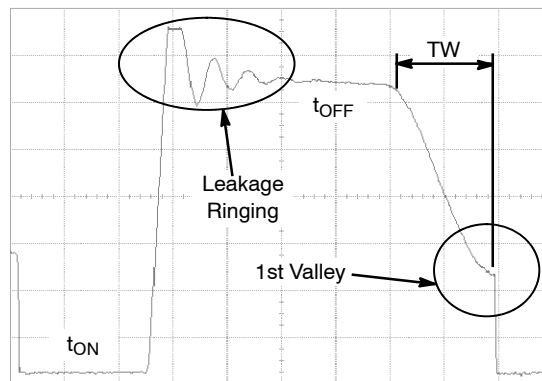
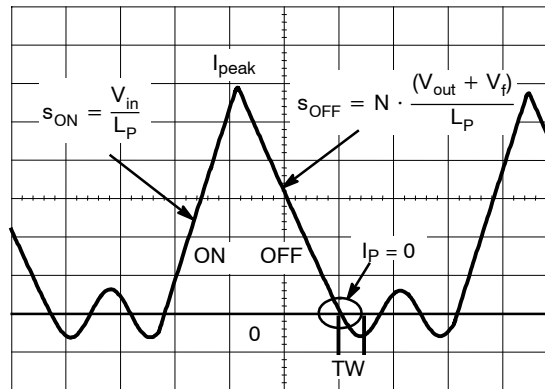
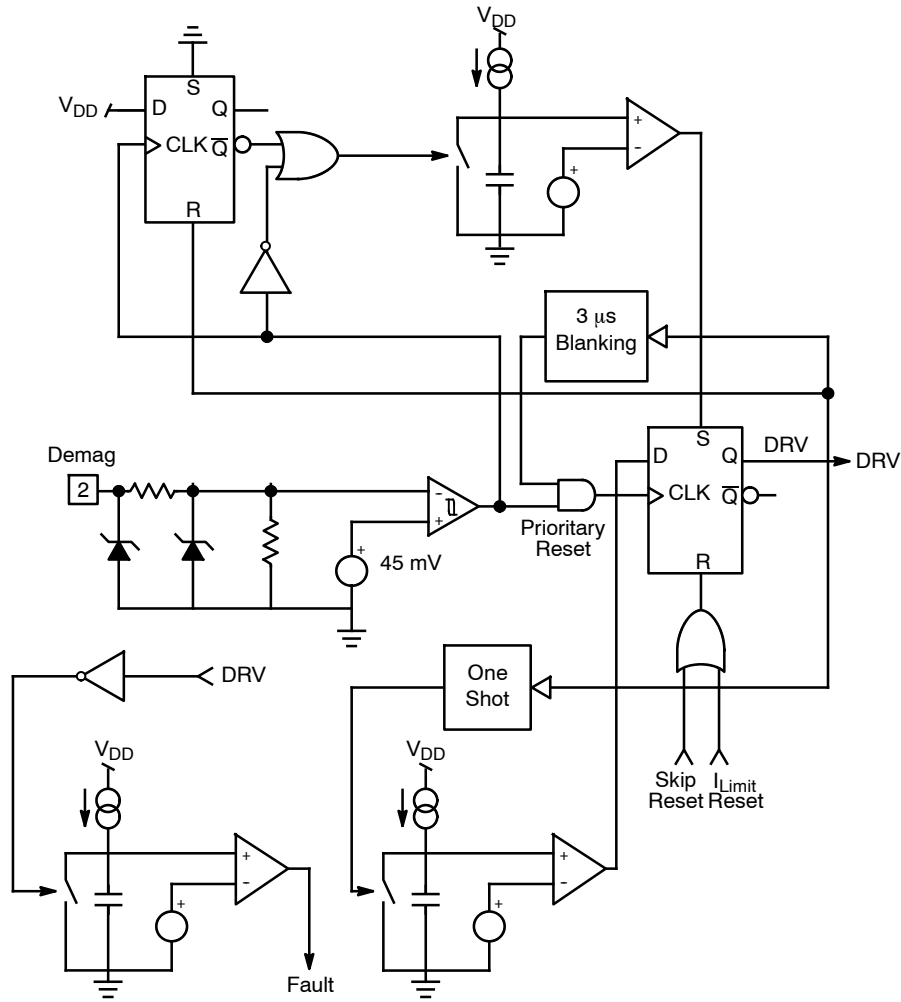
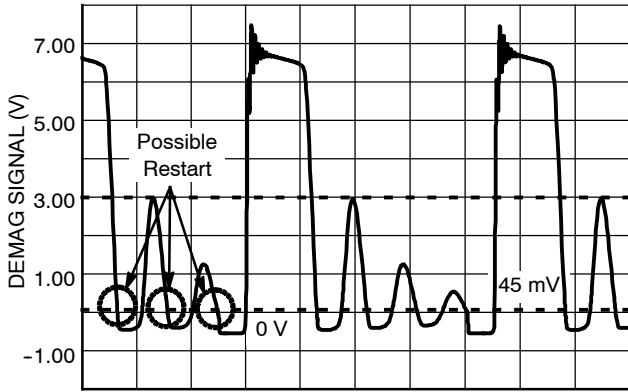

Figure 7. Typical Quasi-Resonance Waveform
Figure 8. Magnetizing Inductance Current Waveforms
Figure 9. Internal QR Architecture
Figure 10. Core Reset Detection is Done Through the Monitoring of a Dedicated Auxiliary Winding
Quasi-Resonance (QR) implies that the controller permanently monitors the transformer core flux activity and ensures Borderline Conduction Mode (BCM) operation. That is to say, when the switch closes, the current ramps up in the magnetizing inductance L_P until it reaches a setpoint imposed by the feedback loop. At this point, the power switch opens and the energy transfers from the primary side to the secondary (isolated) portion. The secondary diode is now biased and the output voltage “flies back” to the primary side, now demagnetizing the primary inductance L_P . When this current reaches zero, the transformer core is said to be “reset” ($\varphi = 0$). At this time, we can turn the MOSFET on again to create a new cycle. Figure 7 and 8 portray the typical waveforms with their associated captions. If a delay TW is introduced further to the core reset detection and before biasing the power MOSFET, the drain signal $V_{ds}(t)$ has the time to go through a minimum, also called valley. Therefore, when we will finally reactivate the power MOSFET, its drain-to-source voltage will be minimum, reducing capacitive losses but also its gate-charge value, since the Miller effect gets diminished at low V_{ds} .
The flux activity monitoring is actually made via an auxiliary winding, obeying the law, $V_{aux} = N \cdot d\varphi / dt$. Figure 9 describes how the detection is made, since the signal obtained on the auxiliary winding is centered to zero. Let’s split the events with their associated circuitry:
The D flip-flop output is high, the MOSFET is enhanced and current grows-up in the primary winding. This is the *on* portion of Figure 8, left side of the triangle. When the driver output went high, its rising edge triggered a 8 μs timer. This 8 μs timer provides a true frequency clamp by driving the D-input of the flip-flop. Now, when the peak current reaches the level imposed by the feedback loop, a reset occurs and the flip-flop output comes low.
As one can see from Figure 7, a parasitic ringing takes place at the switch opening: this is the leakage inductance contribution. Unfortunately, this leakage can be detected as a core reset event if no precaution is taken. This explains the presence of the 3 μ s blanking timer that prevents any restart before the completion of this circuit. After leakage, the voltage applied over the primary winding is an image of the output voltage: this is the flyback level, or plateau level, equal to $N(V_{out} + V_f)$, with N the turn ratio between the primary and the secondary, V_{out} the output voltage and V_f the secondary diode forward drop. We are on the right portion of Figure 8, OFF portion, the secondary current ramping down. If we now observe the voltage on the auxiliary winding, we will see something like what Figure 10 shows where the plateau lasts until the core is reset. At this reset event, a natural ringing takes place whose amplitude depends on the ratio N and V_{out} . A comparator observes this activity and detects when the voltage drops below ground, actually below 45 mV typically. In Figure 9, one can see the ESD protection arrangement which introduces a small capacitive component to Pin 3 input. This capacitive component associated with the demagnetization resistor can thus realize the necessary above TW delay.
Therefore, we can see that for various switching frequency values (dependent on the input condition if the output demand is fixed), the converter will permanently adjust the peak current I_p to keep the output power constant. By manipulating the slope definitions S_{ON} and S_{OFF} (see Figure 8), we can show that the peak current is defined by: